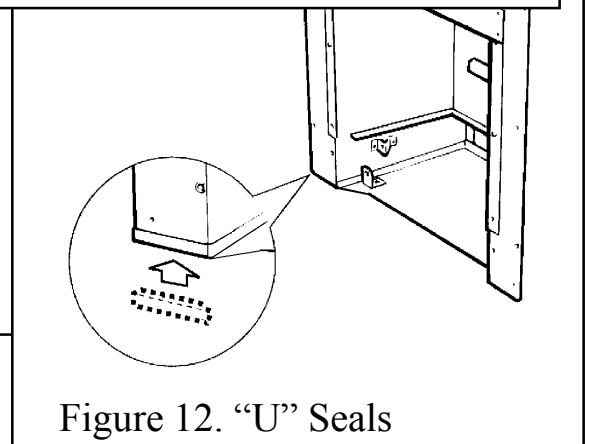

Figure 12. "U" Seals
2. Fit the two "U" section seals to the bottom edges of the convection box side flanges. See figure 12.